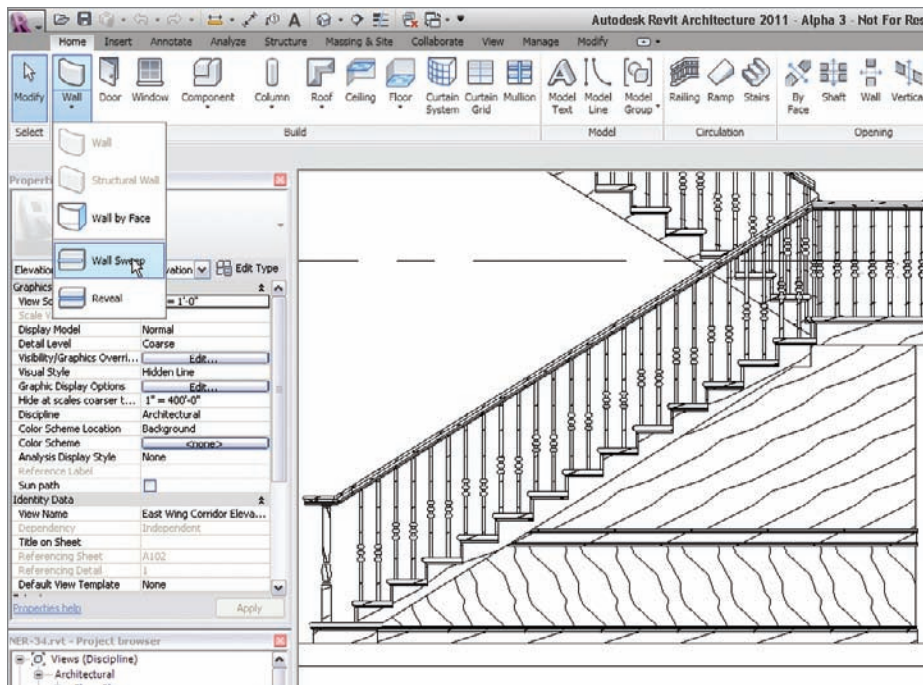

FIGURE 16.16 Choosing the Wall Sweep command
1. Go to the elevation shown in Figure 16.16.
2. On the Home tab, click the down arrow on the Wall button and select Wall Sweep, as shown in Figure 16.16.